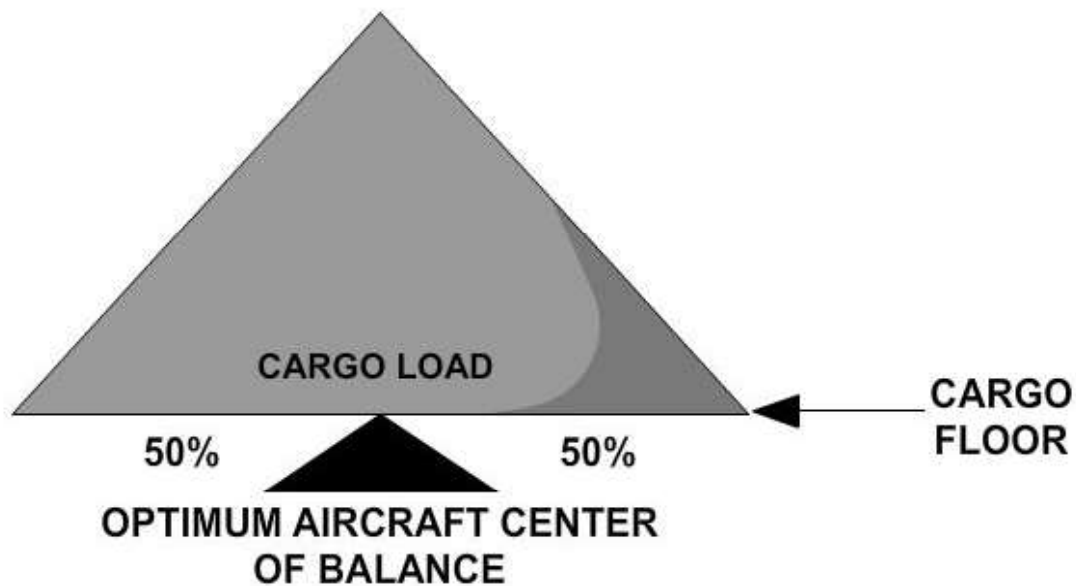

Figure 2-31 — Center of balance model.
- Center of balance (CB) is the point of balance of a piece of cargo, as shown in *Figure 2-31*.